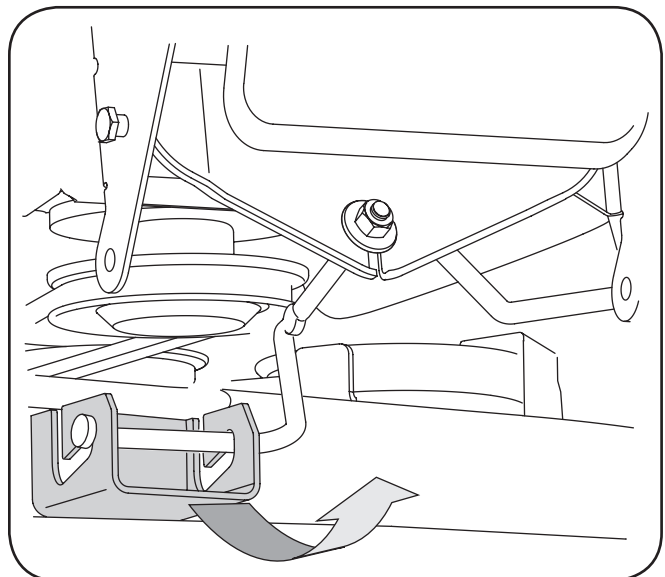

Figure 7-3
8. Gently slide the cutting deck toward the front of the tractor carefully guiding the hooks on the deck off of the deck stabilizer rod. See Figure 7-3.